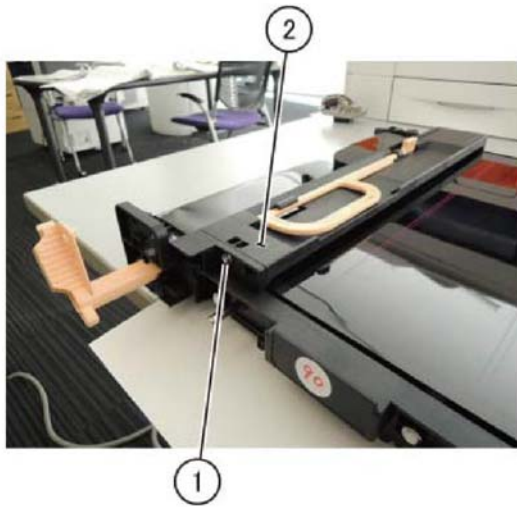

Figure 2 Handle holder front screw
5. Remove the screw (1) securing the handle holder at the front and remove the handle (2), Figure 2.